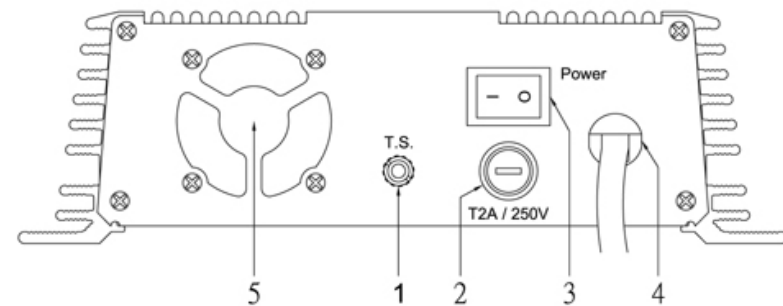

Figure 9
- Connect the “-”(minus) battery pole with a connecting cable with the “-”(minus) terminal at the IU0U automatic charger (see figure 9).
- Connect the “+”(plus) battery pole with the connecting cable with the “+”(plus) terminal at the IU0U automatic charger (see figure 9).